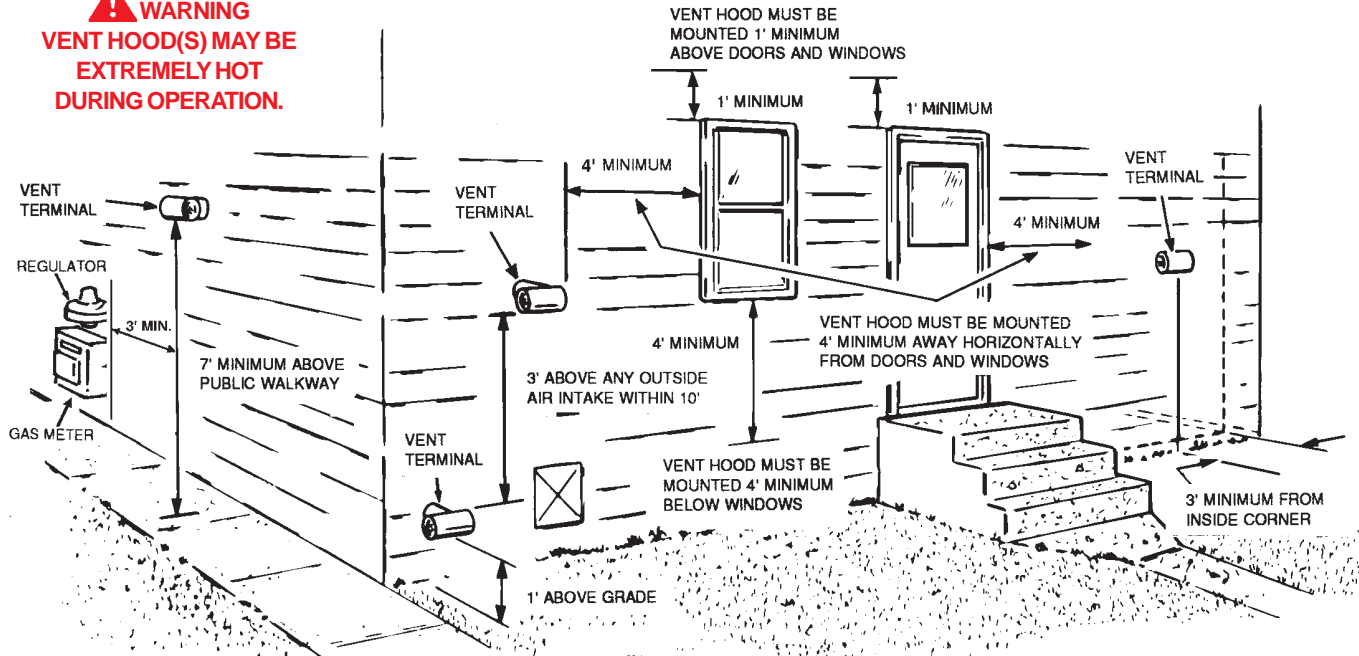
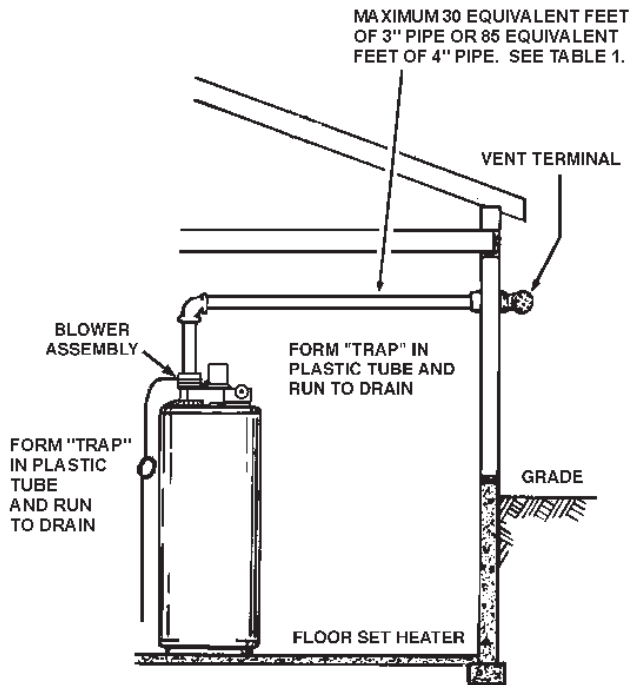
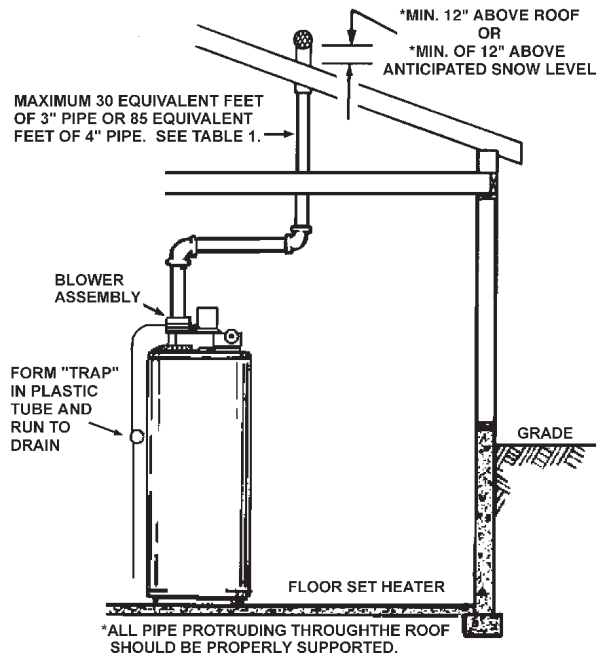

FIGURE 3
FIGURE 8
FIGURE 9
The first step is to determine where the vent pipe will terminate, see Figures 3, 8 and 9. The vent may terminate through the roof as shown in Figure 9 or through a sidewall as shown in Figure 8.
For your convenience instructions on proper installation through a sidewall are provide in Figure 3 and the numbered points below:
- The temperature of the flue gases leaving the blower is about 160°F after mixing the dilution air in the inlet adapter of the blower. Even with high concentrate of room air taken into the vent system for dilution air, there will be some installations where condensate will be formed in the horizontal runs of the vent system. This condensate will run into the condensate boot attached to the blower and out the fitting. The water heater is shipped with condensate hose that attaches to the fitting on the condensate boot. No other Tee or fitting is required. See Figures 8 and 9.
This unit is approved for venting through the roof with only the vent terminal that is included with the unit, see Figure 9. A proper flashing or "BOOT" should be used to seal the pipe where it exits the roof. The total vent system should not exceed the thirty (30) equivalent feet of 3 inch pipe or eighty five (85) equivalent feet of 4 inch pipe as listed in Table 1.